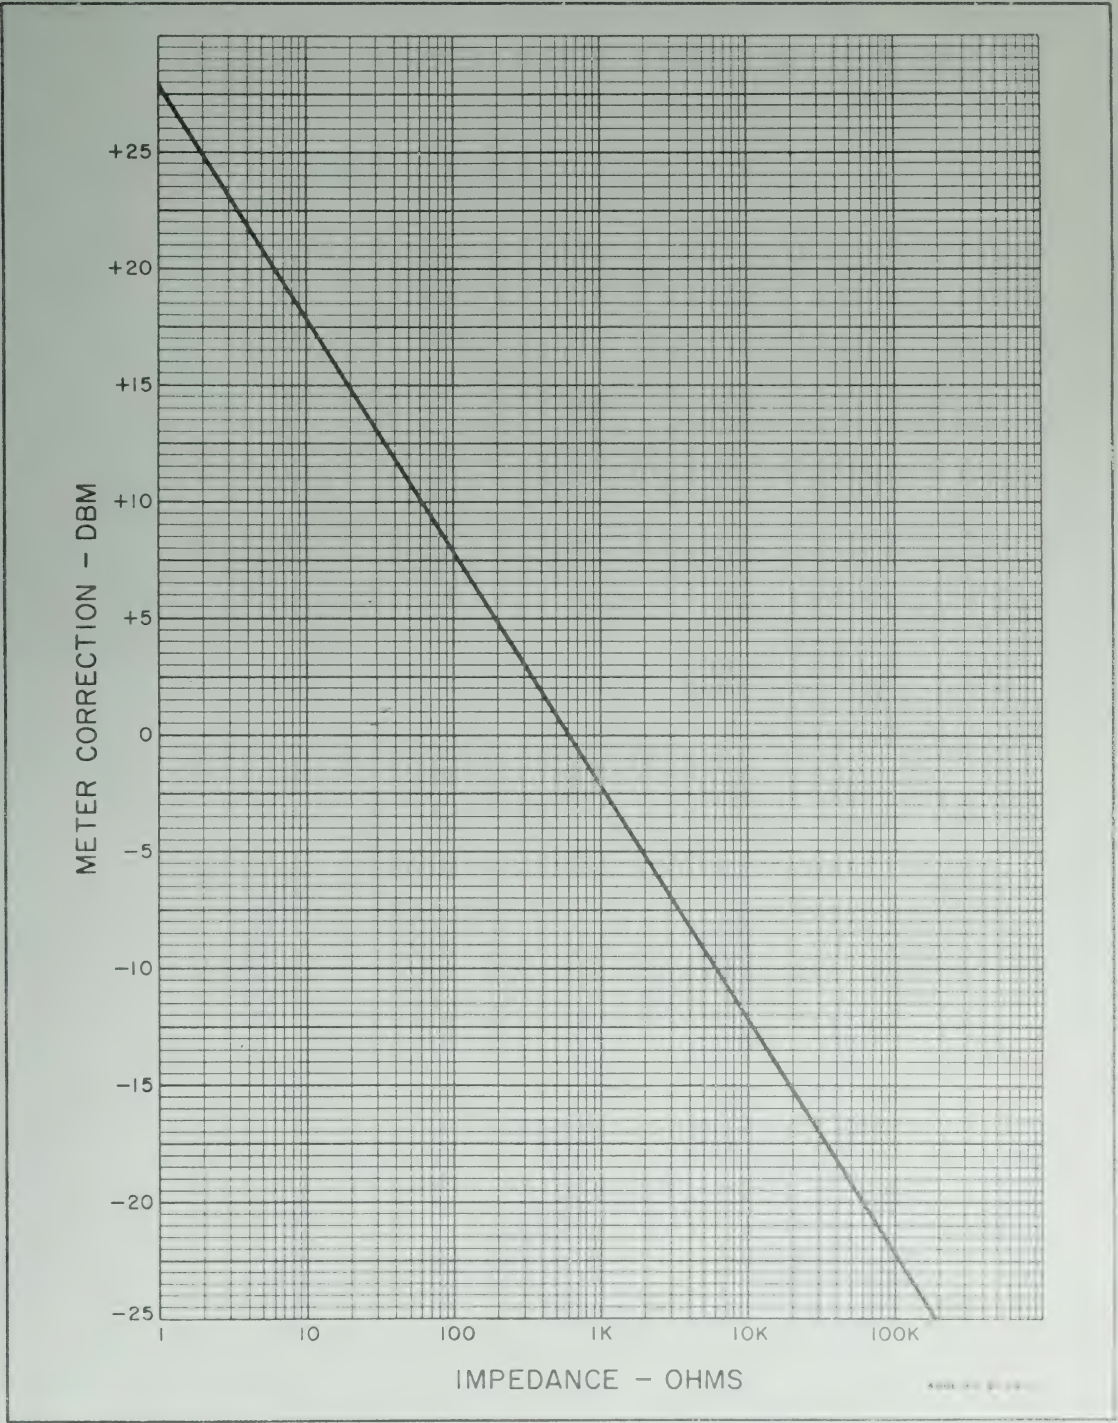

Figure 3-2. Impedance Correction Graph
- e. To convert a db reading to dbm, use the Impedance Correction Graph (Figure 3-2). For example: To convert a +30 db reading made across 50  $\Omega$  to dbm, locate the 50  $\Omega$  load impedance on the bottom of the graph. Follow the impedance line to the heavy black line and read the meter correction at that point. The correction for 50  $\Omega$  is +10.5 dbm, and the corrected reading is +40.5 dbm.